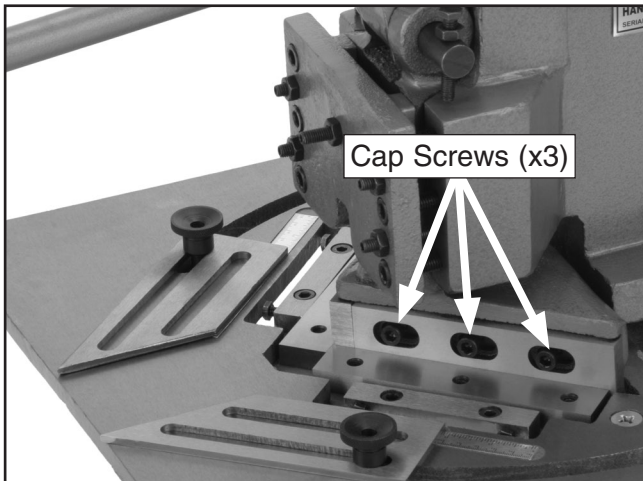

Figure 27. Screws for top blade removal.
1. Remove the six cap screws that secure the top blades (**Figure 27**).